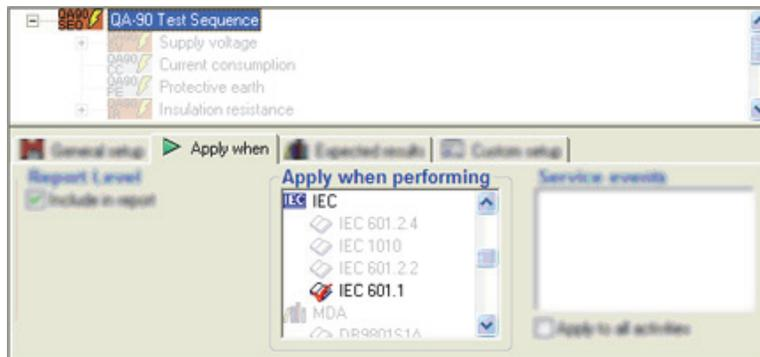

Figure 3-56. QA-90 Safety Test Template
- Create a new test template and add the required safety tests. This example places all safety tests in a QA-90 Test Sequence so that they are performed automatically. See the Users Manual for the QA-90 Plug-In for more information on automatic test sequences. Figure 3-56 shows the safety tests in the template.